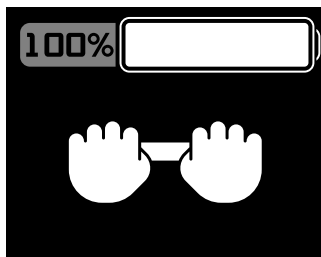

Figure 4.3.3.5
(10) Pushing mode display (as shown in Figure 4.3.3.5)